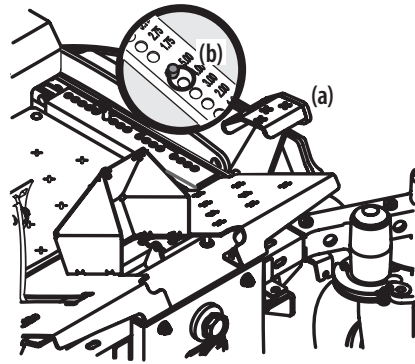

Figure 2-1
- Use the deck lift pedal (a) to raise the deck to its highest position and secure in place with the clevis pin (b) attached to the tractor. See Figure 2-1.